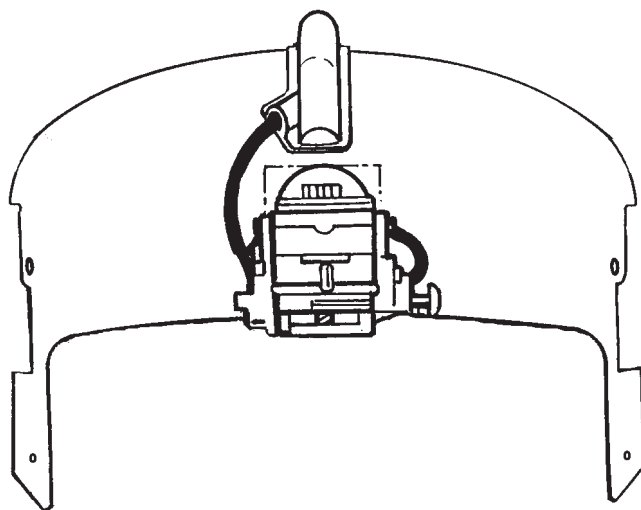

Figure 2-6. ANVIS Mount Attached to Housing
5. Referring to Figure 2-6, place the mount against the front of the visor housing and align the mount holes with the visor housing holes.